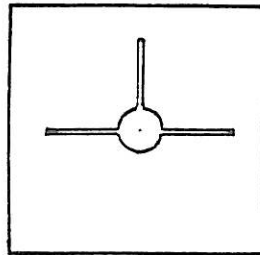

Fig. 13
2. Looking through the backsight of the Headlamp Aligner, observe the screen on the Checking Unit. Using the raise and lower handle, move the Aligner so that the illuminated centre aperture and slits of the screen come into view (see Fig. 13).